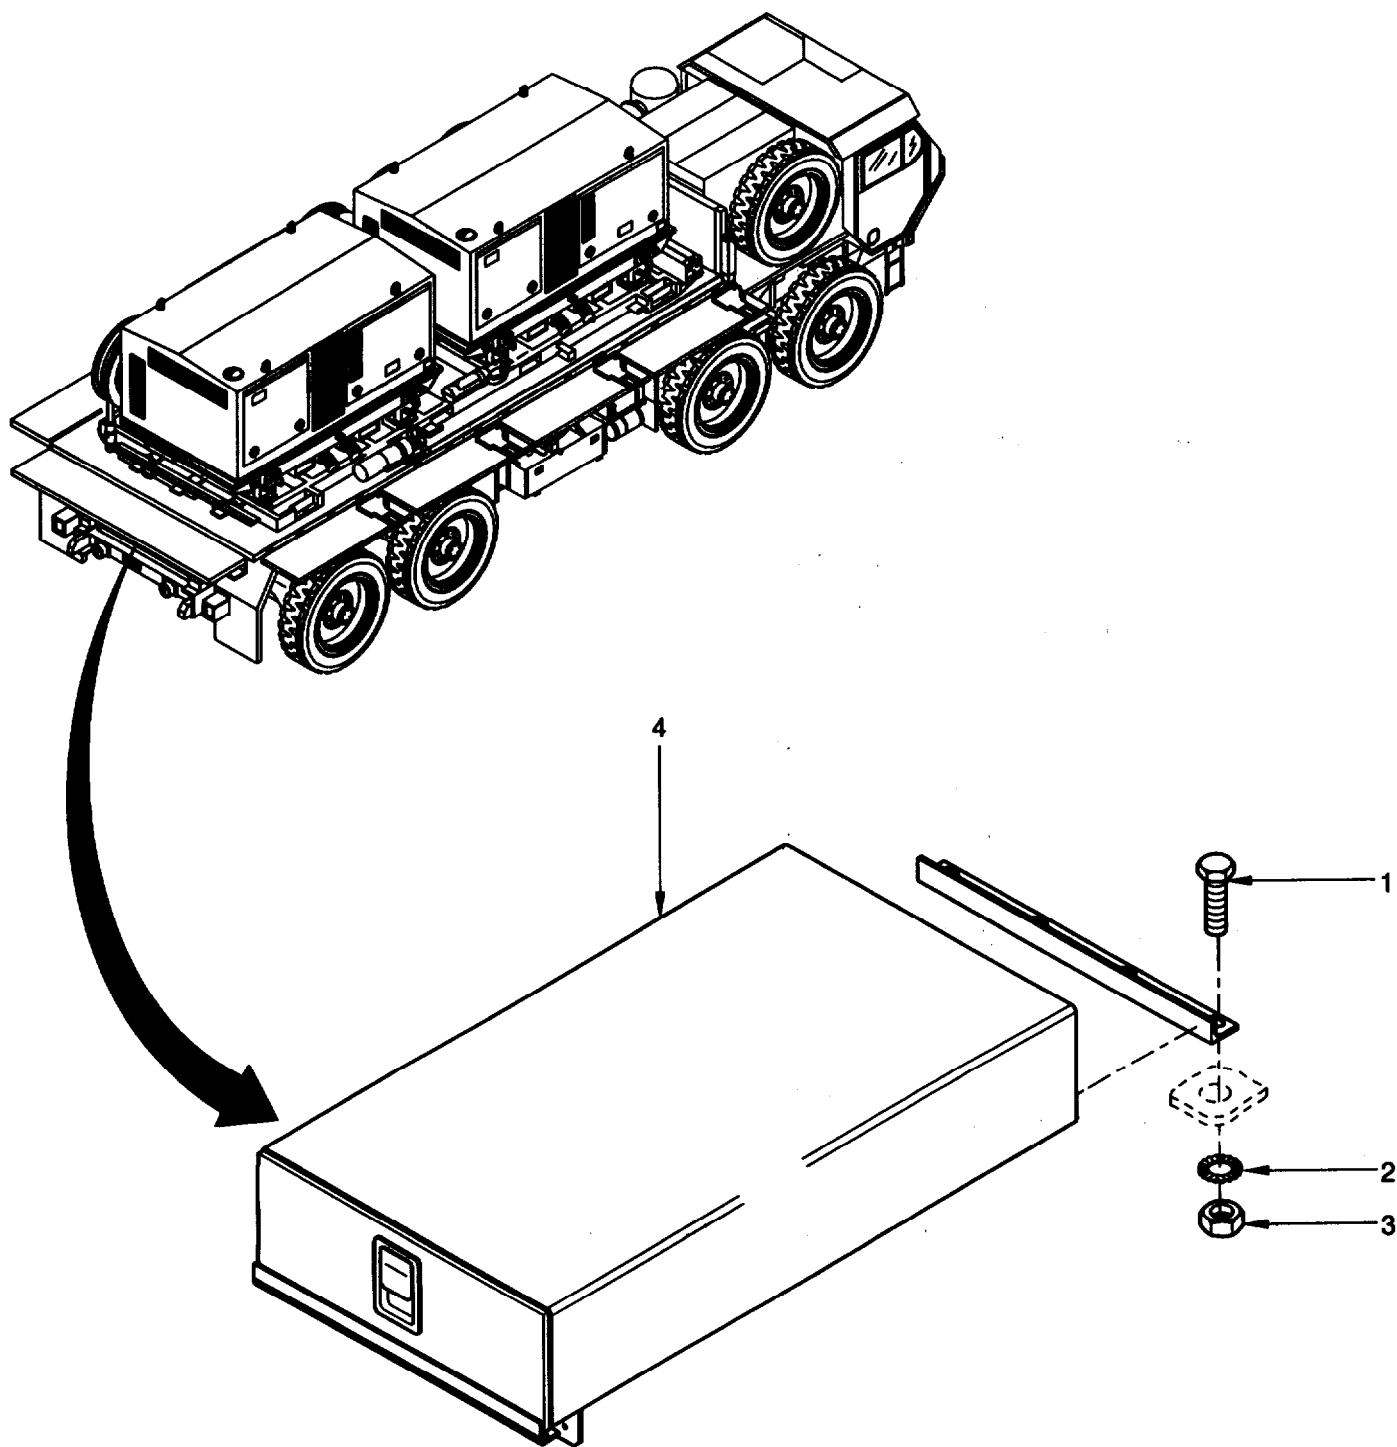

Figure 4-37 Storage Box Assembly Maintenance.
- b. Remove four bolts (1, figure 4-37), serrated washers (2), and nuts (3) from the end of the box (4) facing front of the truck.